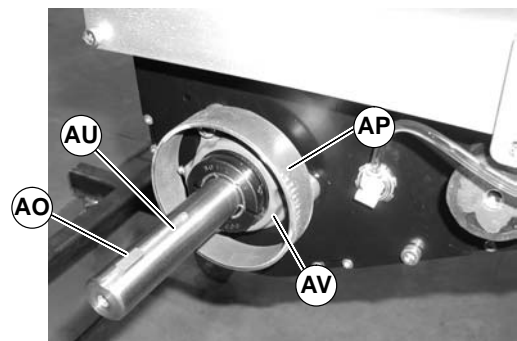
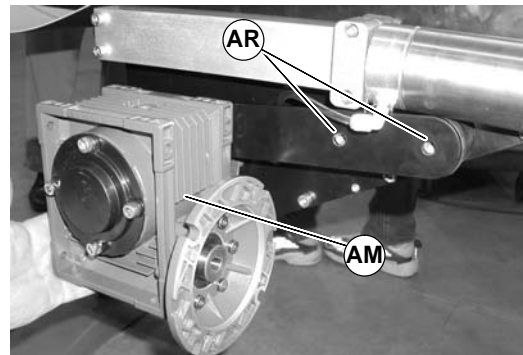

Figure 19
Figure 21
3. Install key (AO of Figure 19) on drive shaft(AU). Install cover (AP) over bearing housing (AV)
5. Slide gearmotor (AM of Figure 21) on to drive shaft (AU of Figure 19). Tighten mounting screws (AR) to 200 in–lbs (22.5 N–m).